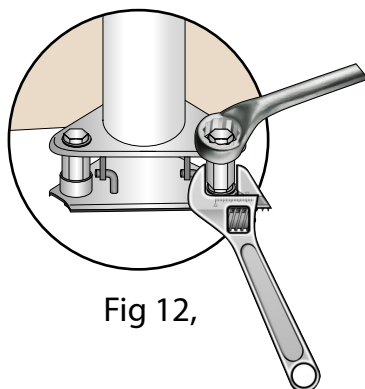

Fig 12,
15. Tighten the set screws whilst preventing the long nut from rotating. (See Fig 12)